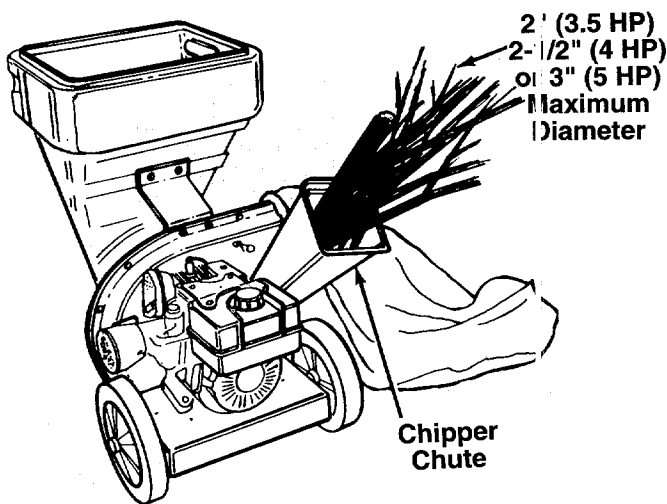

FIGURE 5.
2. Bulky material, such as stalks or heavy branches, up to the diameter listed in the chart below should be fed into the chipper chute. See figure 5.